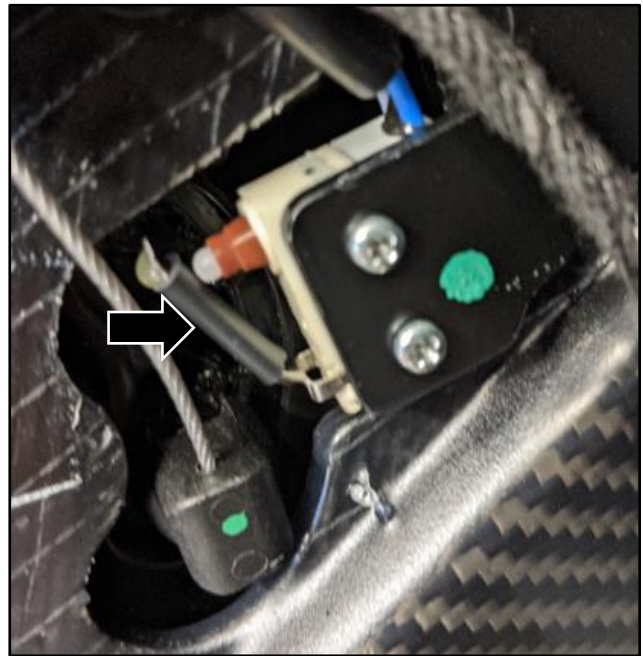

Figure 6
5. Install a 12-15mm piece of adhesive lined heat-shrink around the microswitch lever for the seat latch (refer to Figure 6).